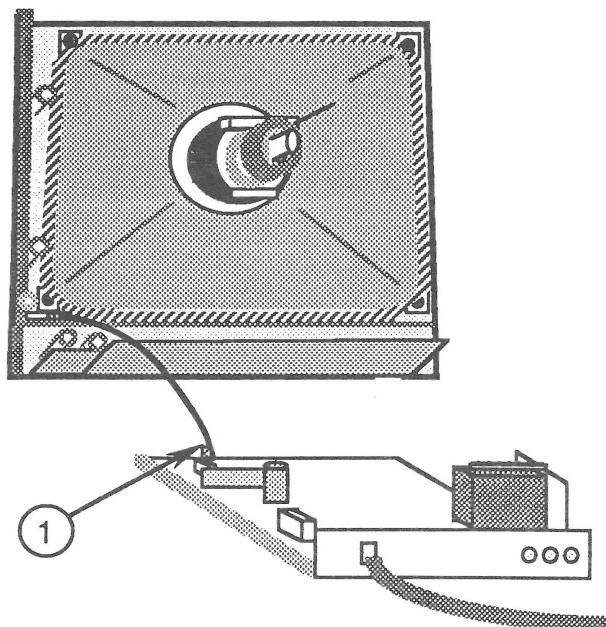

FIGURE 55
3. If the monitor is a ColorMonitor Ile, Rev. A, disconnect the LED cable from the small PCB that is attached to the main logic PCB (Figure 55, #1).
3. If the monitor is a ColorMonitor IIe, Rev. A, reconnect the LED cable to the small, vertically mounted video PCB attached to the main logic PCB (Figure 55, #1).